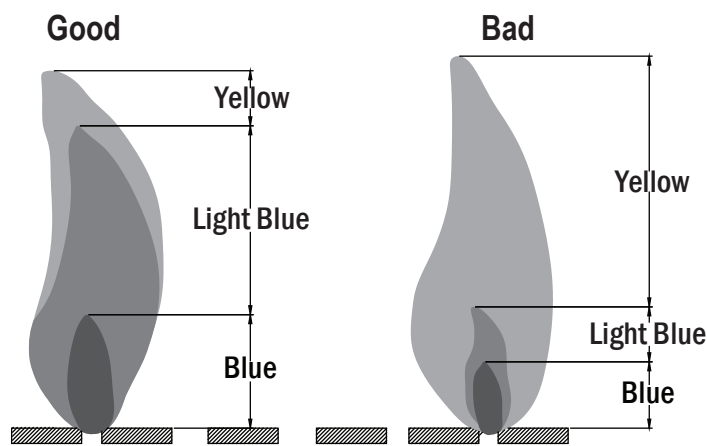

Figure 12
**Observe Flame Height When Lit:** The burner will display blue and yellow flames. These flames should be a blue / yellow color between 1~2 in. height, (see Figure 12). These flames should not be yellow or produce thick smoke. This would indicate an obstruction of airflow through the burners. The flames should be blue with straight yellow tops.